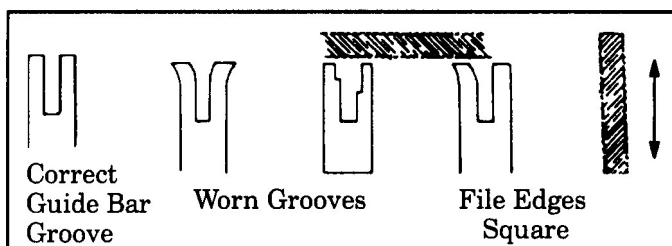

Figure 35
- Remove burrs by filing the side edges of the guide bar grooves square with a flat file. Figure 35.
- Restore square edges to an uneven rail top by filing with a flat file. Figure 35.